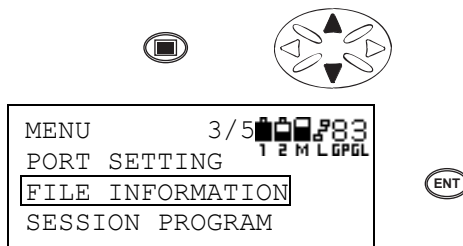

Figure 3-93. Initiate Menu Mode, Scroll to File Information, and Press Enter
1. Press the **menu** key to enter the menu mode. Press the **up/down cursor key** to select FILE INFORMATION and press **ENT** (Figure 3-93).